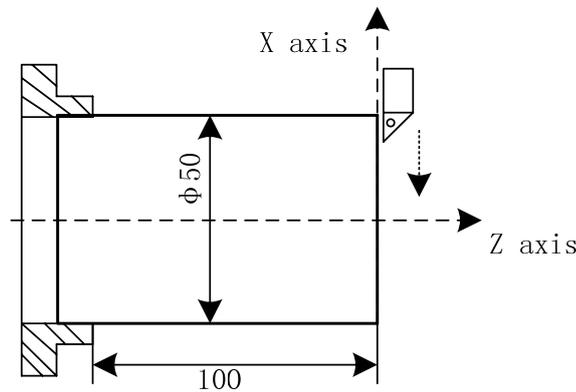

Fig.10-2
- (1) The tool traverses to the safe position; in MDI mode, the system executes T0100 and cancels the tool offset on the program window;
- (2) The tool traverses and cuts along the work piece face as shown in Fig.10-2;